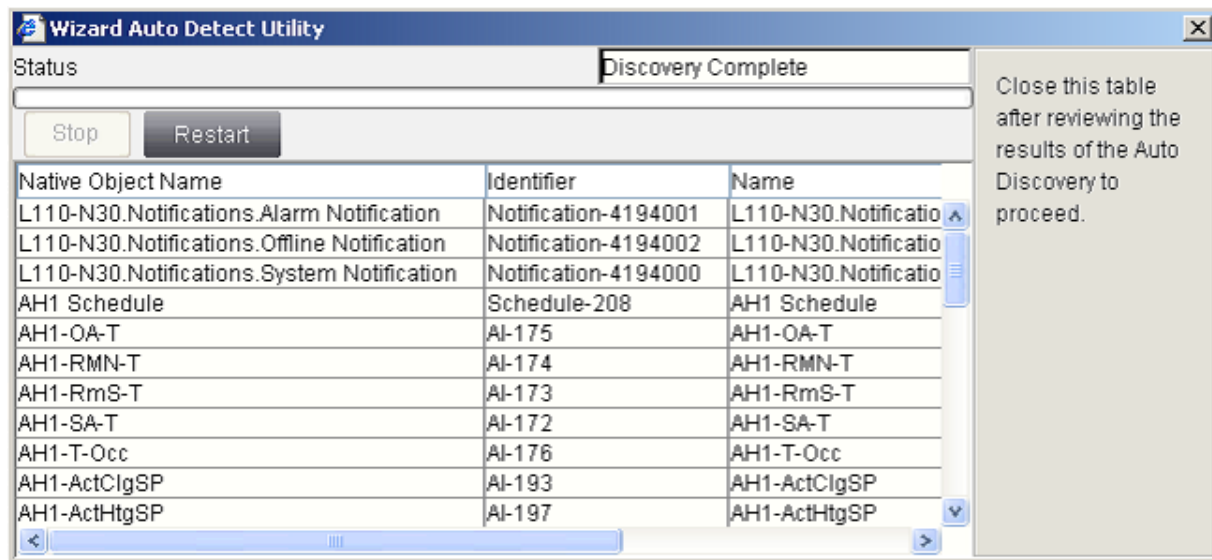

Figure 17: Auto Detect Utility Wizard
- Click on New>>, then click on Assisted to locate the points. The Wizard Auto Detect Utility screen appears with all standard BACnet objects (Figure 17).